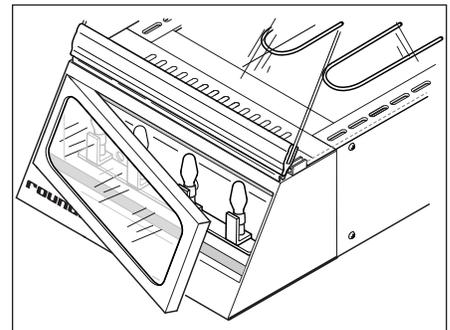

Figure 6. Display Lamp Replacement
3. Using a screwdriver or similar flat bladed tool, gently pry one side of the display panel assembly from the unit (Figure 6), then remove the panel.